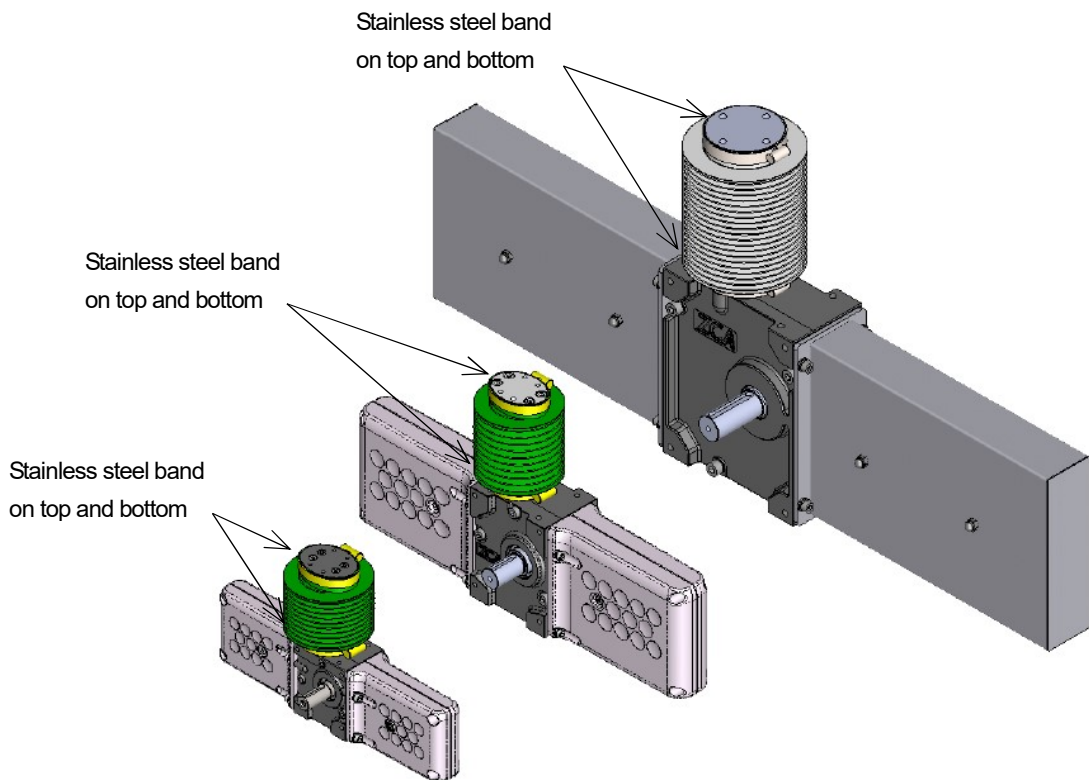

Fig. 24 With bellows attached – 2 (left: ZCA25, middle: ZCA35, right: ZCA45)
- Bellows are affixed with a stainless steel band on each end. Check whether the bolts holding the stainless steel band are loose when periodically inspecting the device. Loose bolts may cause the stainless steel band to slip off and damage the bellows. (See Fig. 24)